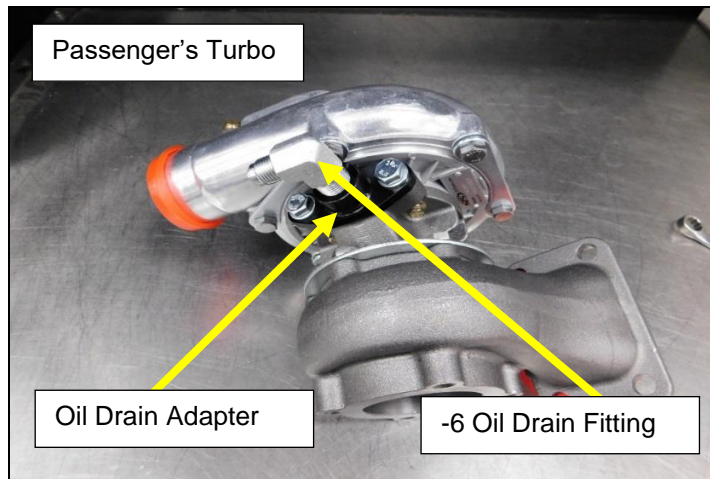

Figure 44
6. Install the oil return adapter to the opposite side of the center section with the supplied gasket and 8mm x 20mm bolts and washers (**Figures 44 & 45**).
7. Apply sealing tape to the -6 x 3/8NPT 90° fitting and install into the oil return adapter (**Figures 44 & 45**).